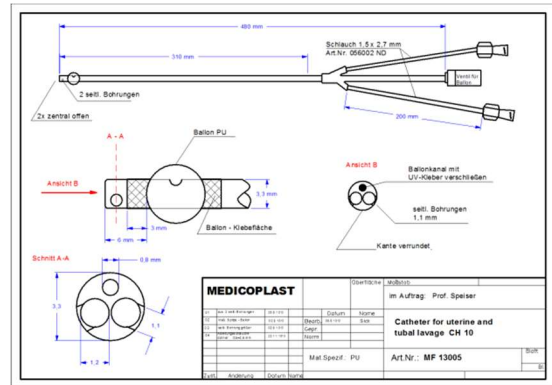

Figure 1. MEDICOPLAST MF 13005 catheter for uterine lavage
- MEDICOPLAST MF 13005 catheter (Figure 1)